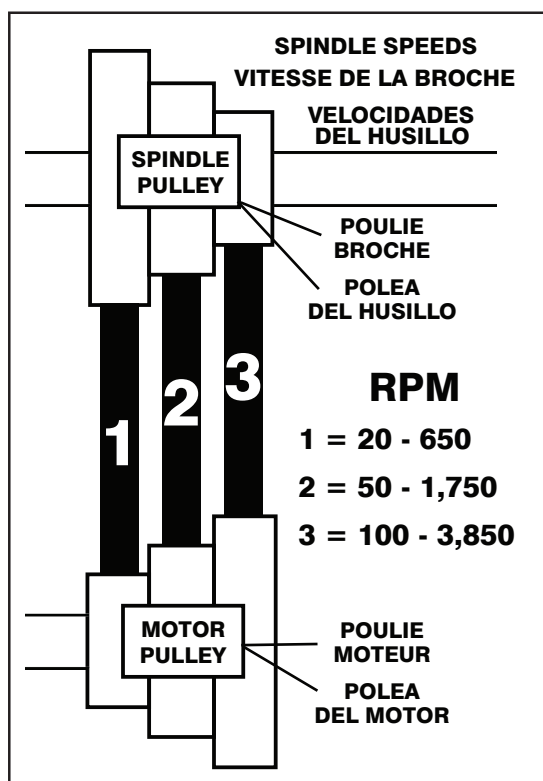
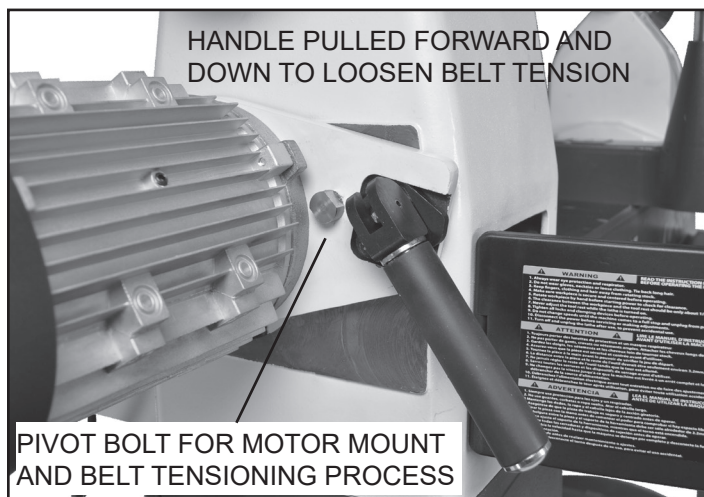

FIG. 32
FIG. 31
To change between the 3 speed ranges, Figure 32, the position of the drive belt on the motor and spindle pulleys must be changed. To do this:
4. Push the Tensioning Handle down to loosen the tension on the Poly-V-Belt (#B56). FIG. 31. The belt can now be positioned on the pulleys for the desired speed range. FIG. 32 shows the belt positions for the three speed ranges.